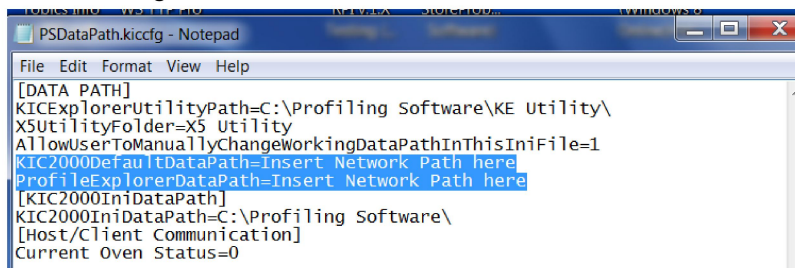

Figure 140
4. Change both the PSDefaultDataPath= and ProfileExplorerDataPath= lines to the desired network location. See Figure 140.